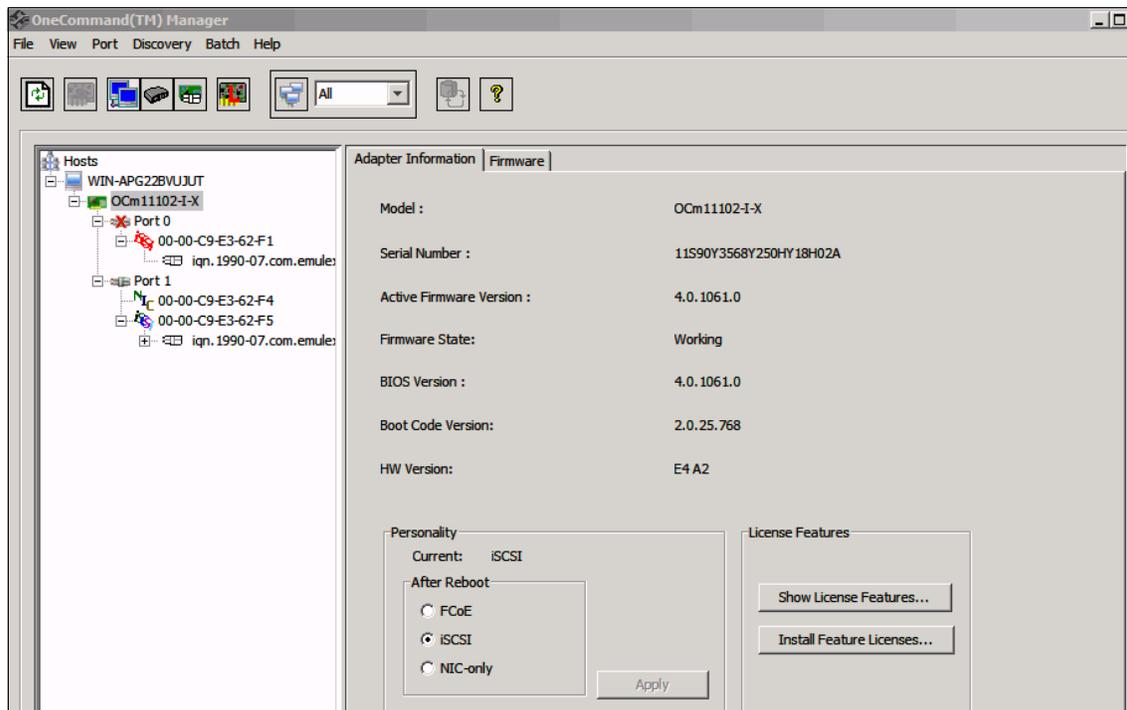

Figure 10-107 OneCommand Manager
3. On the **Adapter Information** tab (Figure 10-107), in the Personality area, under After Reboot, choose the disk connection type **iSCSI**, and then click **Apply**.